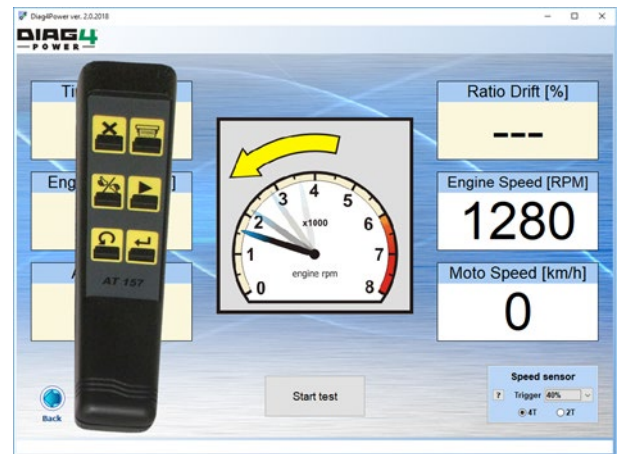

Fig. 13 – Variations of measurement start
- press the **START** button in the program (see Fig. 13)
- press the **ENTER** button on the wireless remote control (AT157 - Fig. 13)